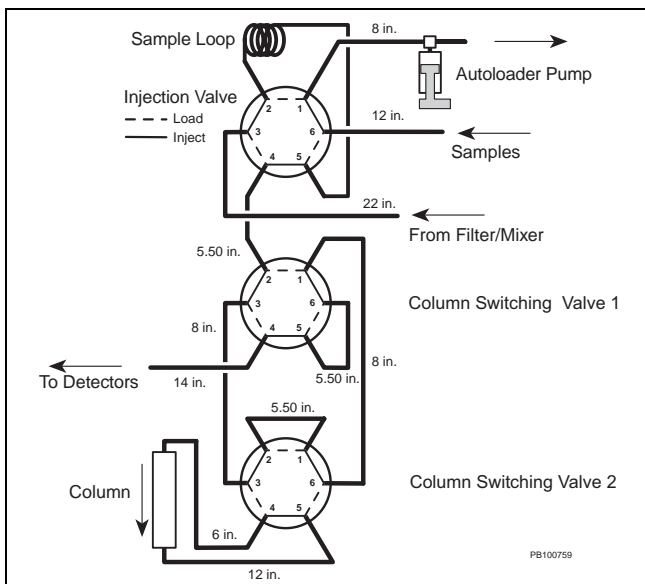
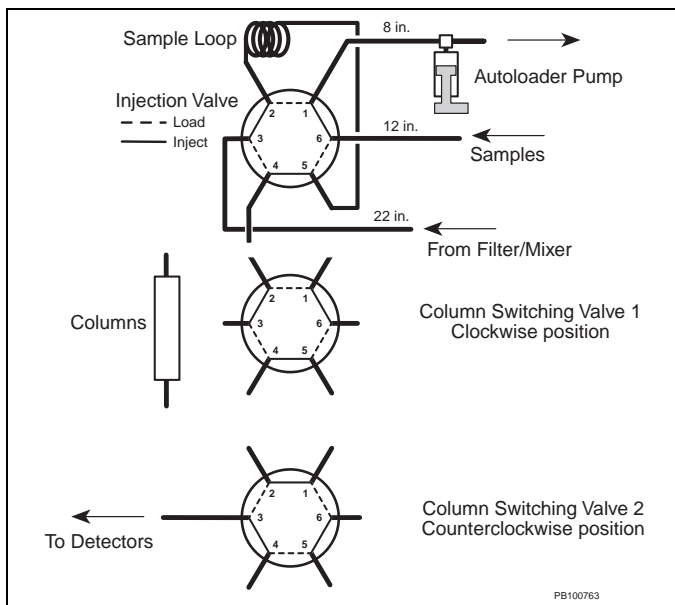

Figure 3-7 VISION Single Column Configuration
Figure 3-11 VISION Direct Control Configuration
Tubing length To determine the lengths of tubing you need for plumbing the injection valve and column switching valves for each column plumbing configuration, refer to Figure 3-7 through Figure 3-11.
Configurations and tubing lengths for each configuration are shown in Figure 3-7 through Figure 3-11.
Connect tubing and columns to a VISION Workstation following one of the plumbing configurations shown in Figure 3-7 through Figure 3-11.
***NOTE:** Figure 3-7 through Figure 3-11 do not show plumbing to the AFC 2000. For information on plumbing the AFC 2000, see Section 3.6.5, Plumbing the AFC 2000 Injector Valve.*